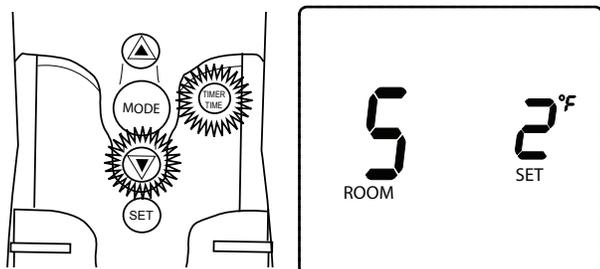

Fig. 18 Setting Swing Temperature
1. To change the temperature “SWING” setting (1-3), press the TIMER/TIME and DOWN buttons simultaneously (Fig. 18) to display the current “SWING” setting in the SET TEMP frame. The letter “S” will display in the ROOM TEMP frame on the LCD screen.